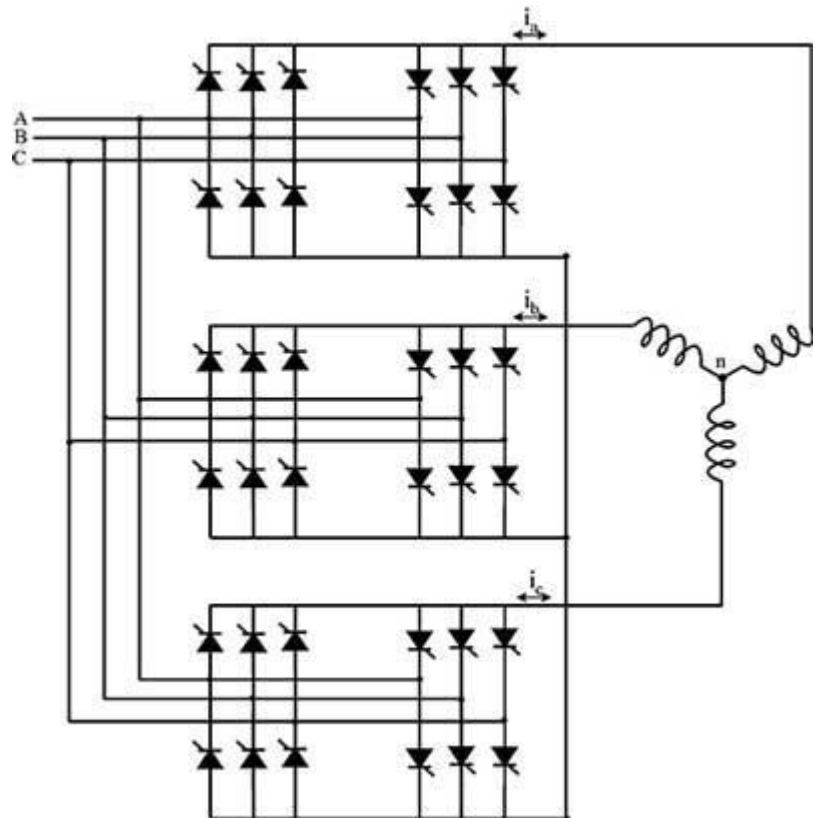

Fig.6 3 ϕ to 3 ϕ cycloconverter
• Another type of 3 ϕ to 3 ϕ cycloconverter is obtained by using Full-wave bridge rectifier as shown in Fig.6. This type of frequency changer is using 36 thyristor. The output frequency f_o is less than the input f_i .